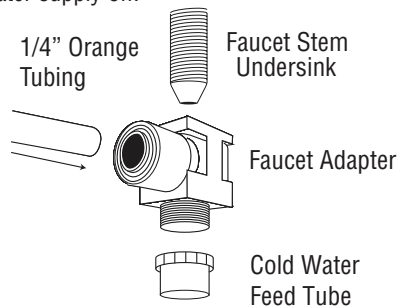

Fig. 3
- 4) Locate the 1/4" Orange Tubing and insert into the 1/4" outlet of Faucet Adapter. See Figure 3 and "Using Push-in Fittings" below.